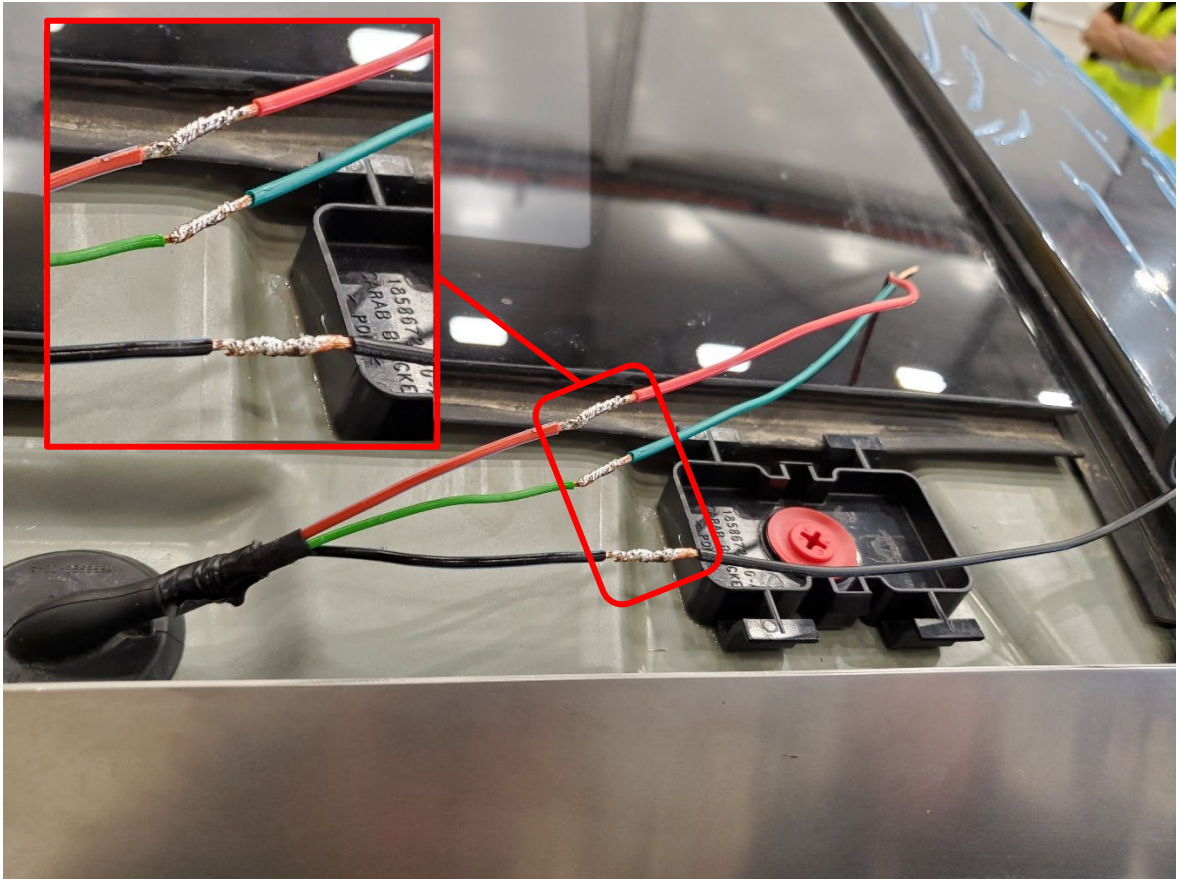

Figure 16 – Correct solder application
- g. Stop applying solder when it evenly covers the outer surfaces of the wires (Figure 16).